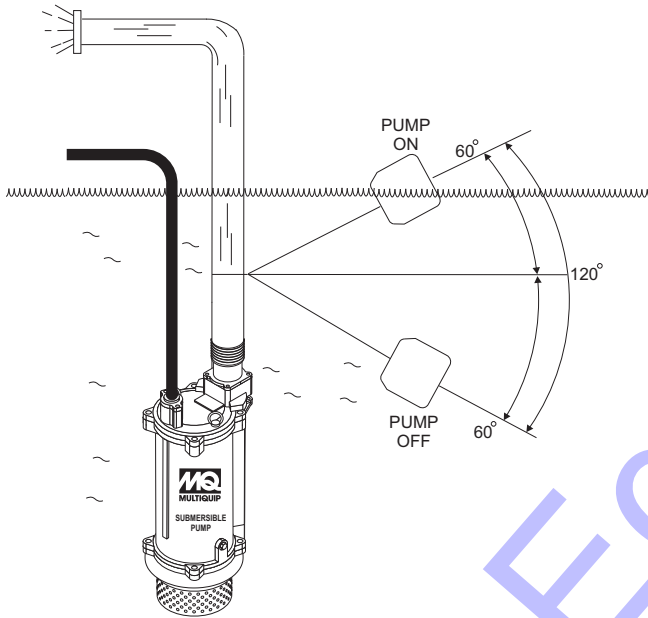
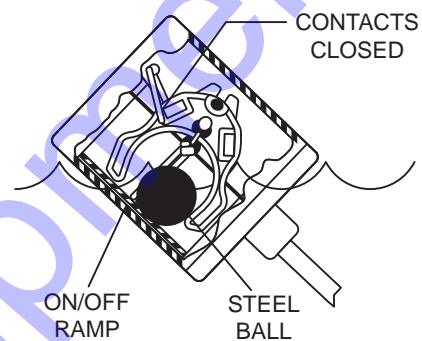
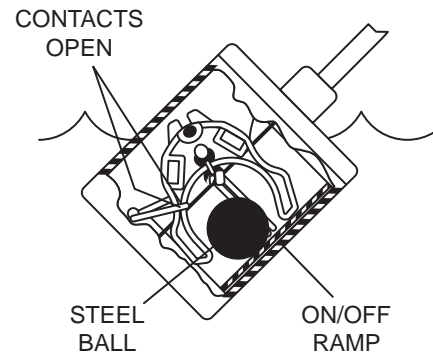

Figure 3. Pumping Range (Float Switch)
Figure 4. Float Switch (Closed)
Figure 5. Float Switch (Open)
The mechanical float switch control will turn **ON** (close) when the float tips 45° above -horizontal, indicating a high level, and turns **OFF** (opens) when the float switch drops 45° below horizontal. Reference Figure 4 and Figure 5. Maximum pumping range is 120 degrees. See Figure 3 below.
1. Determine the required **cord tether length** as shown in Figure 3 and Table 2.
3. Determine the tether length of the float switch wires then secure float switch wires to pump discharge hose. See Figure 3 and Table 2 to determine the pumping range.